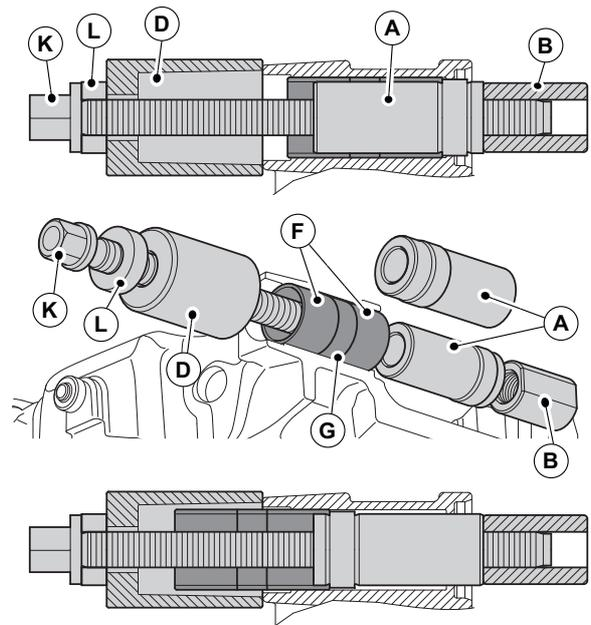

Figure 55. Remove the leading slide bearing
8. To remove the two bearings (F) and the spacer (G) on the leading side, assemble in sequence Haldex special tool (K), (L), (D), (A) and (B) "Tools", as shown in figure 55.
9. Once fitted correctly, turn the threaded tool clockwise which will pull out the two bearings (F) and the spacer (G).